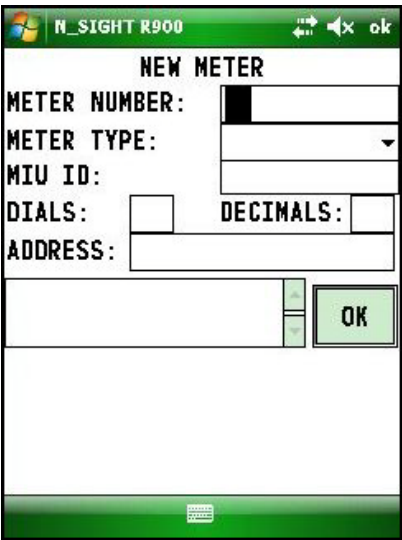

Figure 6.36 N\_SIGHT R900 New Meter Screen
- The New Meter screen appears as illustrated in Figure 6.36.